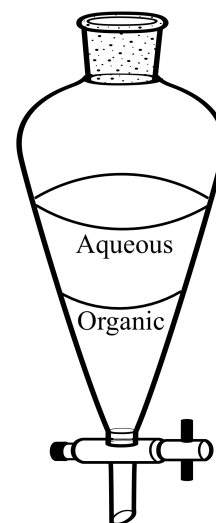

Figure DC.2: Separatory funnel for macroscale separation of organic and aqueous layers
1. Set up the separatory funnel using a ring and ring stand as shown in the Figure DC.2. Be sure the stopcock is closed before you pour any liquid into the funnel.